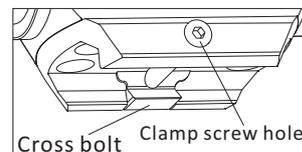

Fig 3
2. First insert the Torx wrench into the clamp screw hole, then rotate to loosen cross bolt then slide the sight into the firearm rail to a right position, and finally fasten the clamp screw. (Fig3)